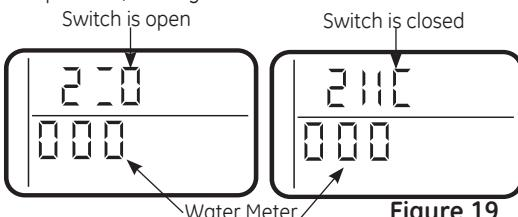

Figure 19
1. Press and hold **MODE/SET** for 3 seconds until the Set low salt alarm display appears, next press the **MODE/SET** button five addition times until "000" shows in the display, then release, (see Figure 19).
3. Symbols in the display indicate POSITION switch operation, (see Figure 19).